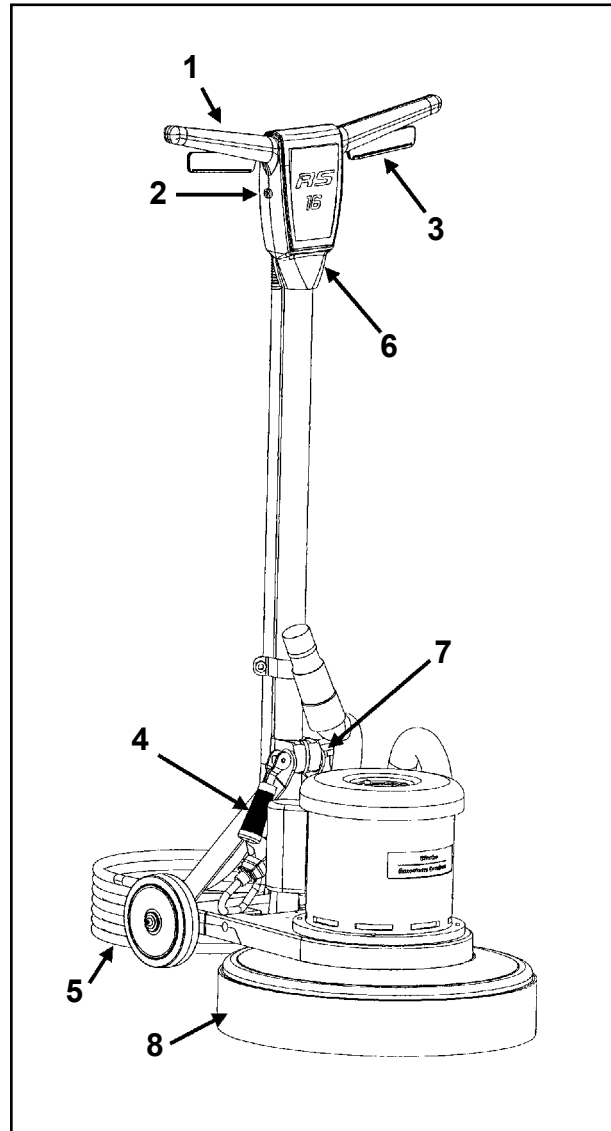

Figure 1
### KNOW YOUR MACHINE (Figure 1)
2. Install skirt (RS-16 DC) as shown in figure 1, item 8; stiffening the strip down.